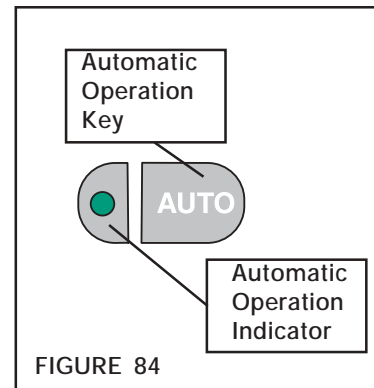

FIGURE 84
4. Press the **Automatic Operation Key** until the indicator is turned off (See Figure 84).